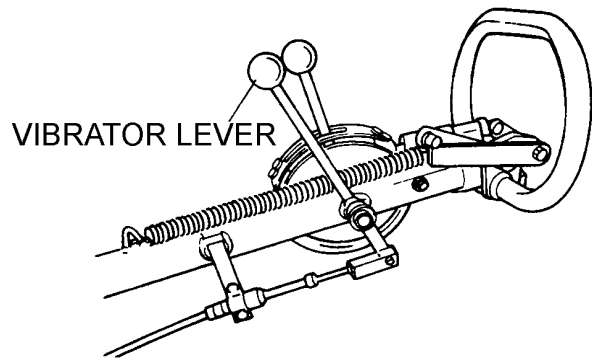

Figure 21. Vibrator Lever
1. Shift the two vibrator levers ( Figures 21 and 22) to the vibrate position to start vibrations.